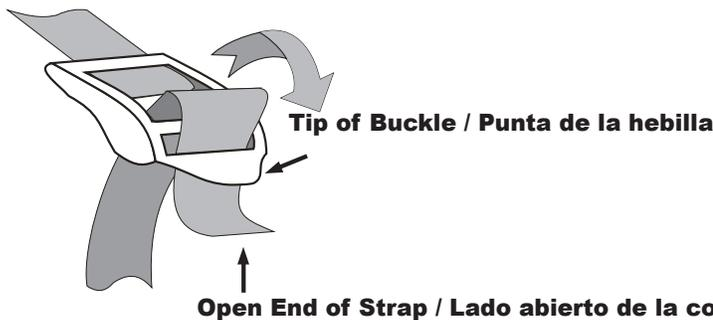

Fig. 2
- 2) See Fig.2 for attaching strap to buckle.